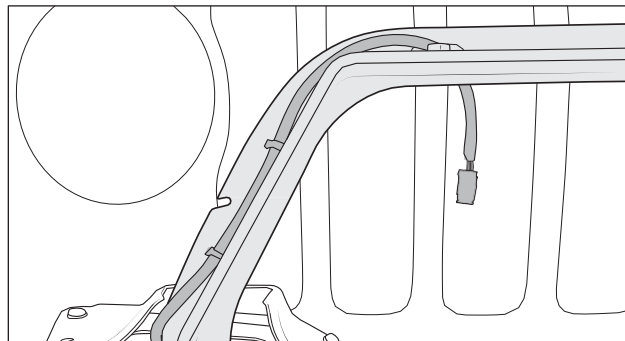

Figure 18
- A. If installing AEV offroad lights or camera relocation kit, route the wiring and sprayer hose, running them along the outside of the thick bracket on the hoop weldment and through the openings in the top of the bumper, and out the back along the frame opening. Use provided fir tree wire ties to retain the wiring and hose along the bracket. Make sure to leave enough slack to connect to mating components (fig. 18). See specific instructions for those kits for additional details.